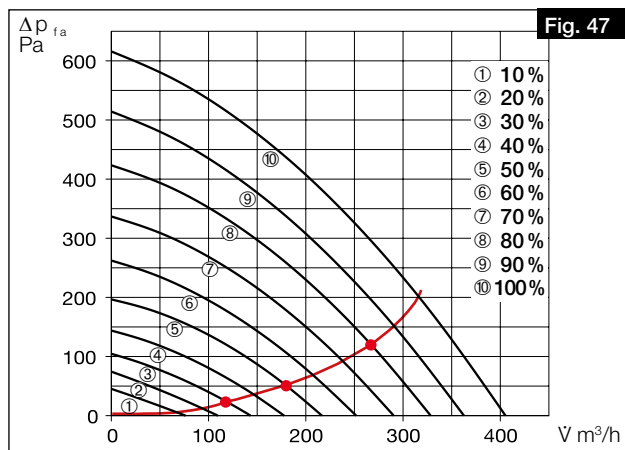

Fig. 47
- If individual measuring points are connected, the system characteristic curve is for supply or extract air (cf. Fig. 47).